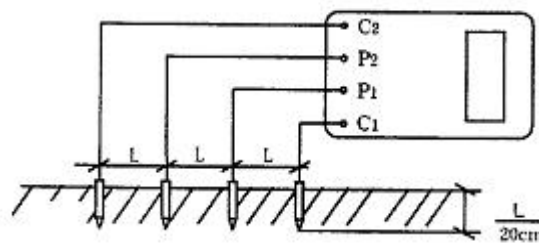

Figure 2
2. Soil resistivity measurement (Fig. 2)
1) As Fig. 2: when measuring, insert four probes into the measured soil along a straight line, make sure the insertion depth is 20cm and spacing of each probes is 20cm. connect terminals C1, P1 , P2, C2 to the four probes with wire. If the measured resistance value is R, the soil resistivity can be calculated as follow: